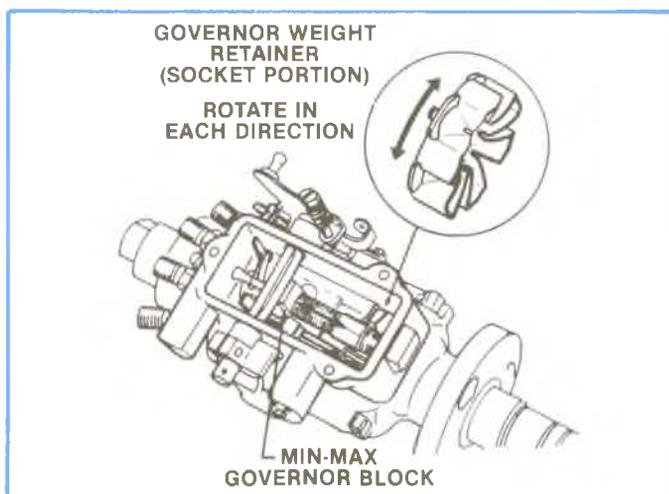

Figure 7-10
- f. Check for failed flex ring by attempting to rotate the socket portion of the retainer by hand or with a screwdriver blade (Figure 7-10). If the retainer can be rotated more than 1/16th of an inch in either direction and doesn't return when pressure is released, then a failed flex ring is indicated. See Oldsmobile Dealer Technical Bulletin 80-T16 for instructions regarding flex ring replacement.